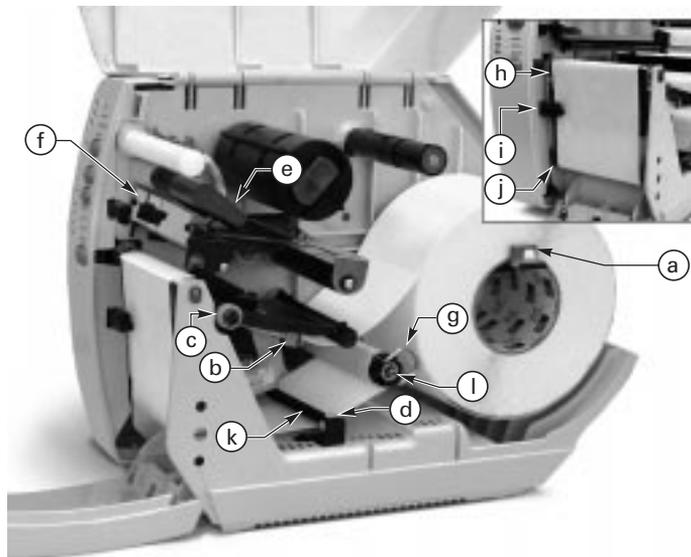

Figure 9
Refer to Figure 9 and follow the procedure below.
4. Thread the media through the printhead as shown in Figure 9.